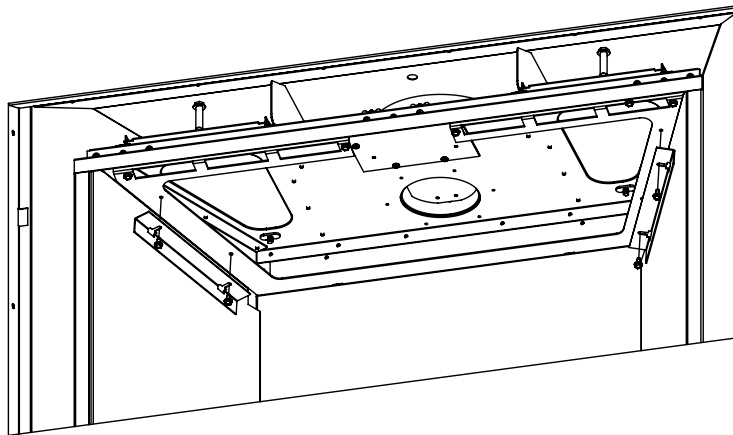

Figure 76: Liner Retainers
Step 3. Remove the liner retainers one at a time using a 5/16 socket. The screws only have to be loosened, not completely removed, as the retainers are key slotted. Remove the side liners first, then the rear (see Figure 76).